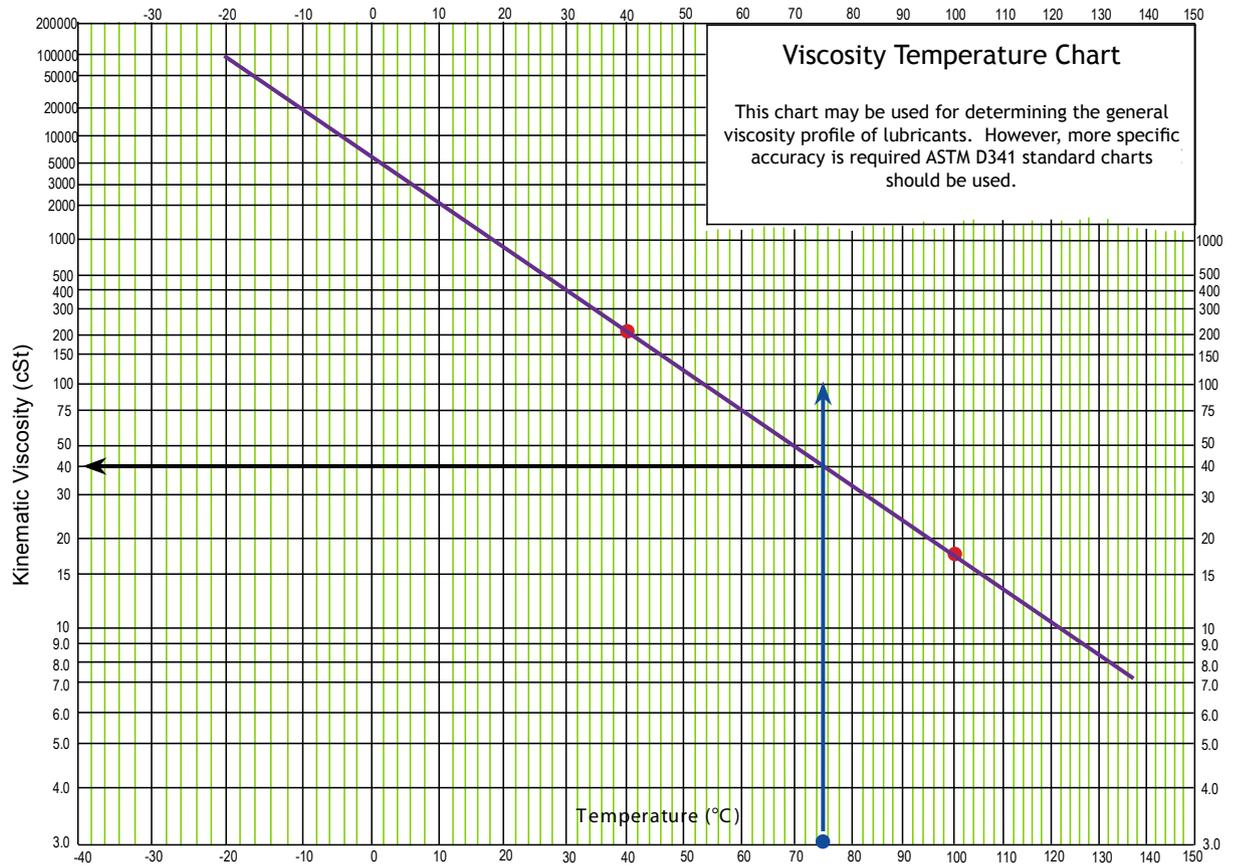

Figure 1 - Viscosity Temperature Chart
Step 1. Identify the viscosity across a temperature range. First, have the oil analysis laboratory run a viscosity check on the product under consideration at two different temperatures: 40°C and 100°C. Next, plot these two data points on a Viscosity-Temperature chart (shown in Figure 1). These can be purchased from a variety of locations, but the lubricant supplier should be able to provide one at no charge. Finally, draw a line from in front of the first data point to well beyond the second point. This line indicates the viscosity in centistokes at each temperature point on the chart.
Step 3. Find the target temperature on the chart's temperature axis, as shown with a blue circle at the bottom of the chart in Figure 1. From the temperature plot point, draw a vertical line through the viscosity line that was plotted in Step 1. Where these two lines intersect represents the actual operating viscosity in centistokes.
In this instance, the lubricant in use is an ISO 220, with an actual viscosity at 40° C of 202, and at 100° C of 17, and a specific gravity of .855. The red dots in Figure 1 correspond with the viscosity at 40°C and 100°C. The purple line represents viscosity in centistokes at different temperatures. The blue dot and blue line represent the actual temperature at which the oil is operating. Assume the operating temperature is 75°C / 167°F. In this instance, the viscosity at operating temperature is about 42 centistokes.